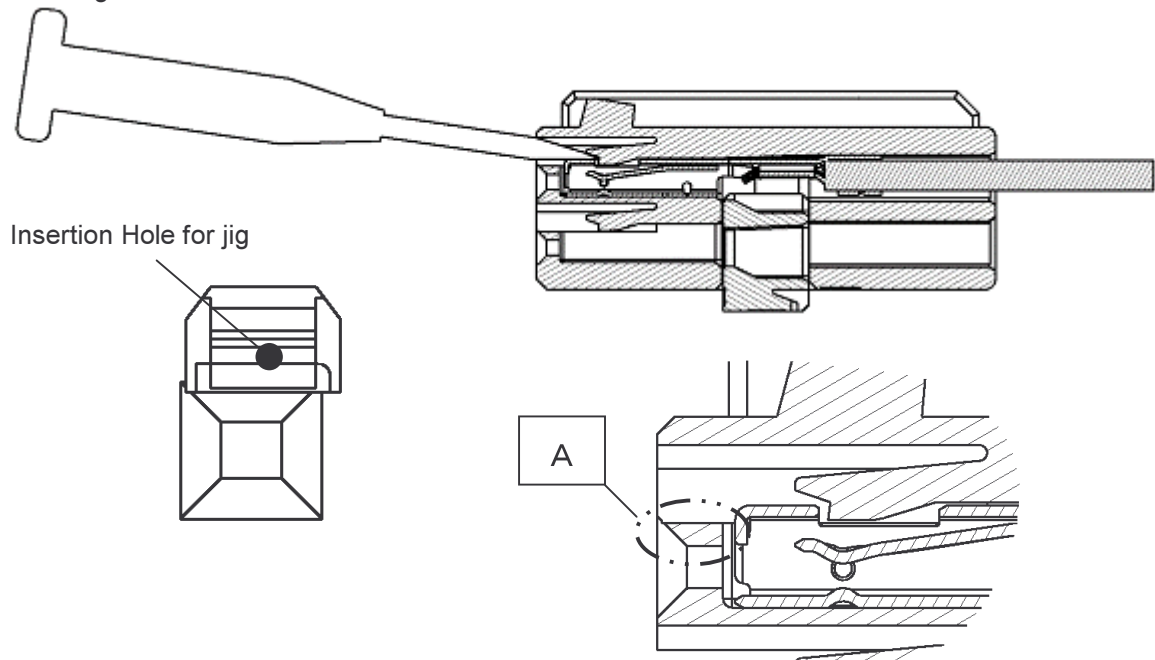

Fig.12
- (1) Confirm the retainer is in pre-assembled condition. When the retainer is in final lock condition, it must be changed to pre-assembled condition. See para.6.3. The female contact can not be extracted in final assembled condition.
- (2) Recommend to use the special tool (PN:1729375-1) for extracting Female Contact. Use the tool according to the Instruction sheet (411-78139).
- (3) The case of not existing of the special tool, Insert 1mm blade screw driver into the proper hole to the end, remove the loaded contact from housing while pull the crimped wire. See Fig.12.
- (4) When the female contact can not be extracted, do not pull the wire by force but ensure the housing lance is unlocked.